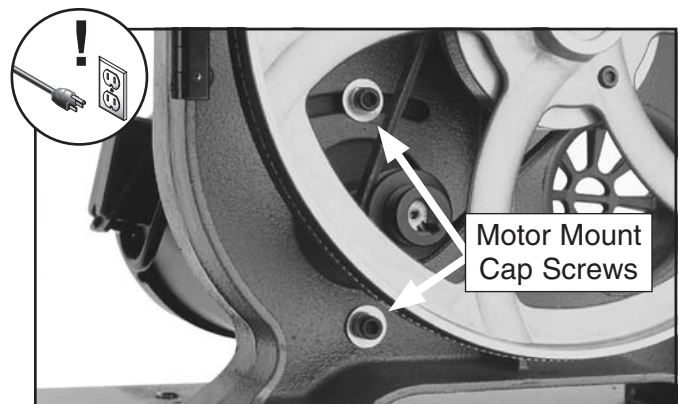

Figure 45. Motor mount cap screws.
2. Open the lower wheel cover, and loosen the motor mount cap screws shown in **Figure 45**.